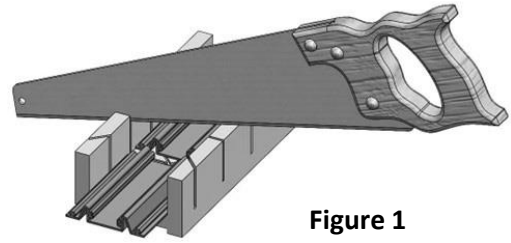

Figure 1
1. Position aluminum extrusions on the inside lip of the "T" grid as shown and attach with #6 self-drilling screws (included) 18" on center. **See Figure 1.**
1. Position aluminum extrusion on the inside lip of the “T” grid as shown and attach with #6 self-drilling screws (included) 18” on center. On the wall side, position the corner extrusion so the extrusion channels are level with each other. Fasten with anchors (by installer) into the structural support. **See Figure 1.**
1. After determining the angle needed, use a miter box and a non-serrated saw (teeth removed) and cut ends of seal clean, straight and square. **See Figure 1**